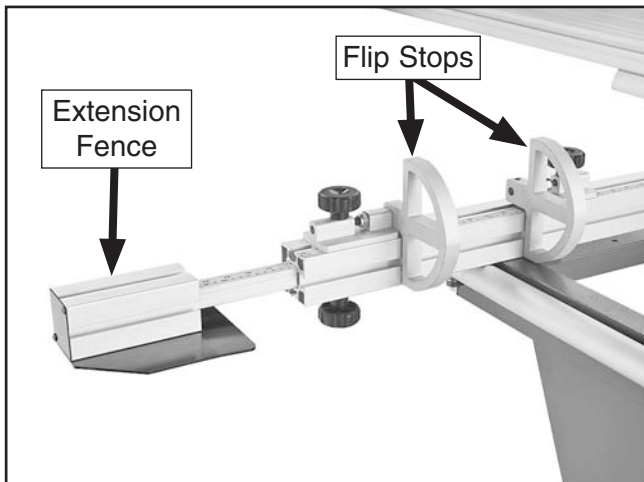

Figure 52. Crosscut flip stops installed.
59. Move the crosscut extension fence out so that you can install the flip stop assemblies, as shown in **Figure 52**.